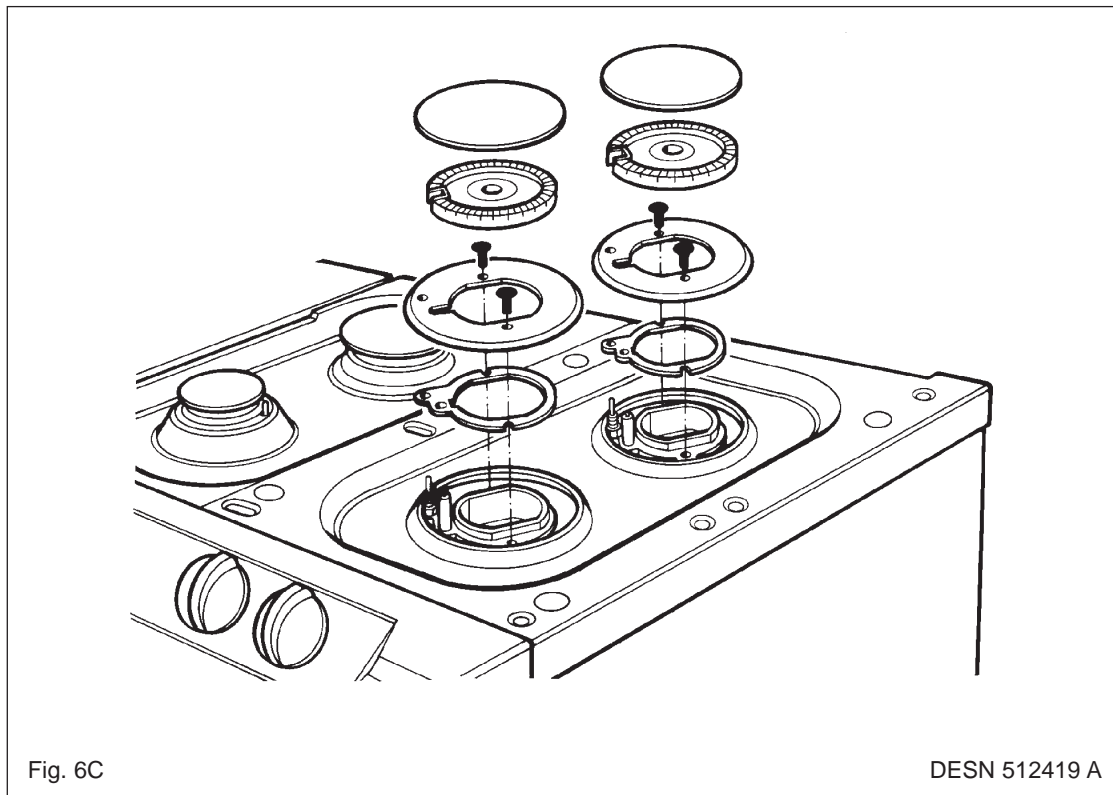

Fig. 6C
- Fit and secure six burner rings using M4 screws on rear left hand, front centre, front right hand and rear right hand burners. Use No.6 3/8 screw on front left hand and centre rear burners. (See Fig. 6C).